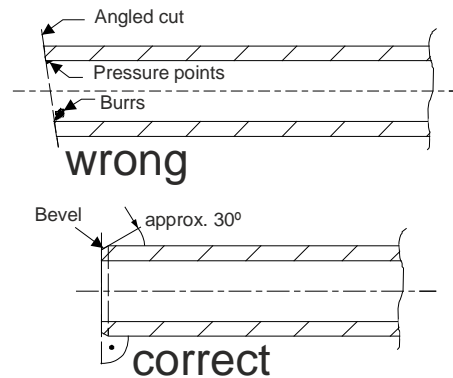

Fig. 22 Cutting the tubes
- The tubes must be cut with a pipe cutter to required lengths. In doing so, ensure that the cut is at a right-angle to the tube axis. Any projecting burrs must be removed (Fig. 22).
- The ends of the individual tube pieces are to be slightly angled with a suitable tool, e.g. slightly bevel with a pipe peeler (Fig. 22).